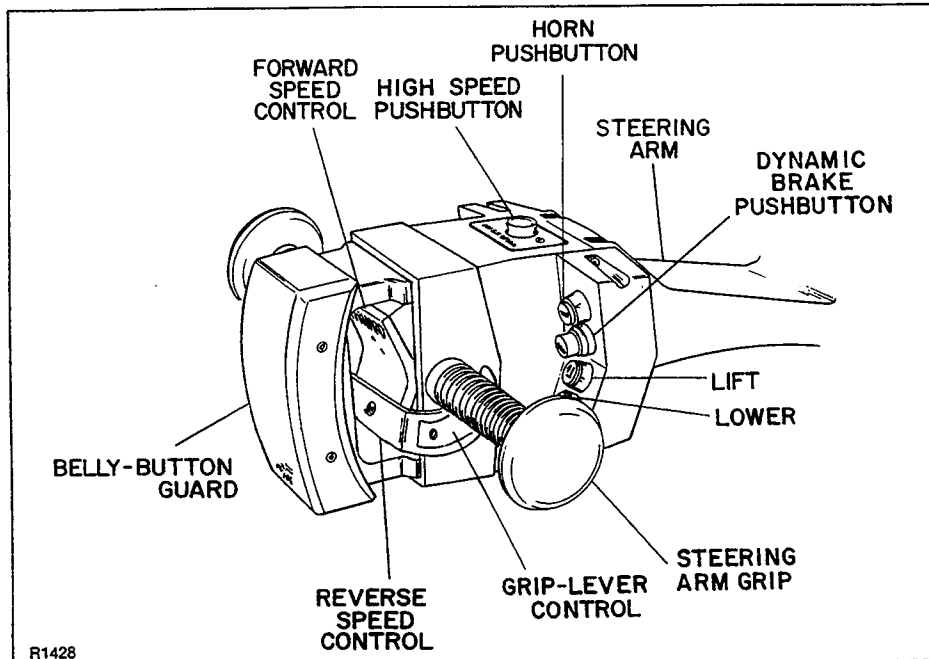

Figure 2-1. Steering Arm Controls
2-4. Steering Arm Controls. (Figure 2-1)
The switch boxes, which are located on both sides of the control head, have parallel controls to allow operation from either side. Each box has a dynamic brake, horn, and lift and lower pushbutton switches. The control head contains the forward/reverse speed control, the belly-button guard, and the high speed switch on 24 volt systems. Figure 2-1, Steering Arm Controls, illustrates the controls, and Table 2-1 lists their functions.
The speed control (see figure 2-1) located on the control head provides fingertip control for driving the truck. As the upper portion of the speed control is pressed, it actuates microswitches for first speed and forward direction. Pressing the speed control farther actuates a switch for second speed and further pressure actuates a switch for third speed. On trucks with 24 volt electrical systems, the third speed is controlled by a High Speed pushbutton switch. These trucks will not switch into third speed unless the pushbutton switch is held in the depressed position. Release of the High Speed pushbutton will cause the truck to switch back to second speed regardless of the position of the speed control. The lower portion of the speed control governs the two reverse speeds in the same manner on 24 volt systems and three reverse speeds on 12 volt systems.
5. To move forward, slowly press the upper (FORWARD) portion of the speed control. Press this control farther to increase speed. When in the riding mode, a Grip-Lever is provided to aid in actuating the directional/speed control (see figure 2-1).